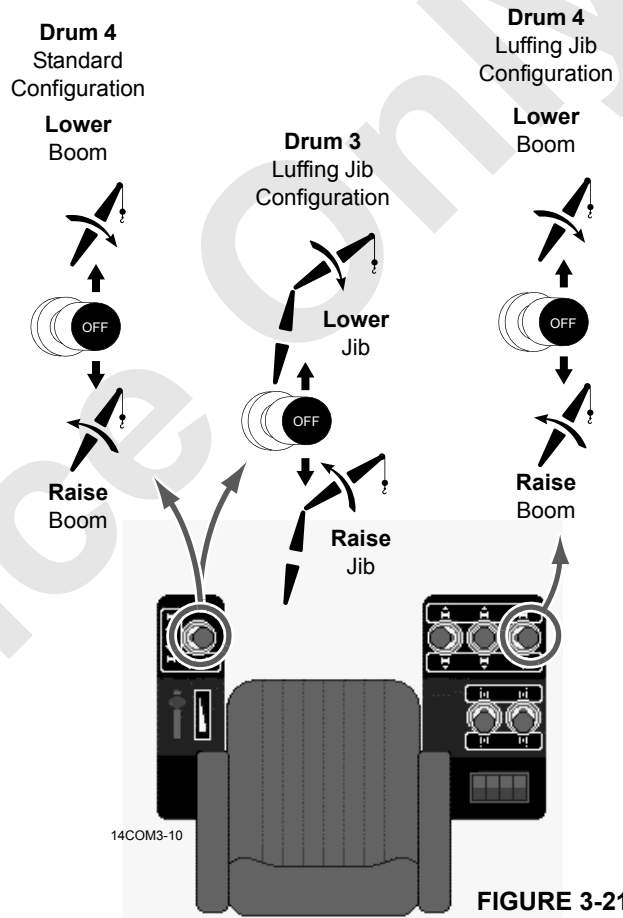

FIGURE 3-21
See Figure 3-21 for the boom hoist operation.
4. See Figure 3-21. Push boom hoist handle FORWARD from off to LOWER boom or pull handle BACK from off to RAISE boom.
See Figure 3-21 for the Luffing hoist operation.